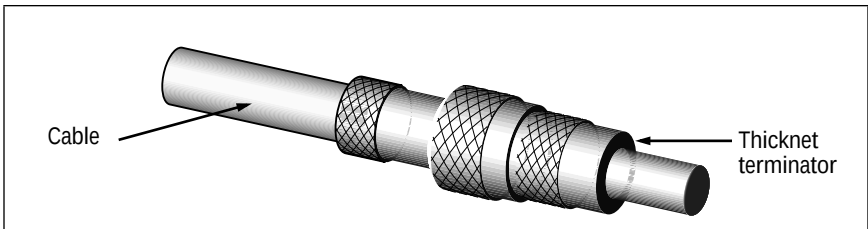

Figure 3: 50 Ω Terminator for Thicknet Segment
13. Be sure the cable is terminated at both ends. Figure 3 shows a terminator installed at one end of a thicknet segment.
2. Be sure the cable is terminated at both ends. Figure 3 on page 5 shows a terminator installed at one end of a thicknet segment.